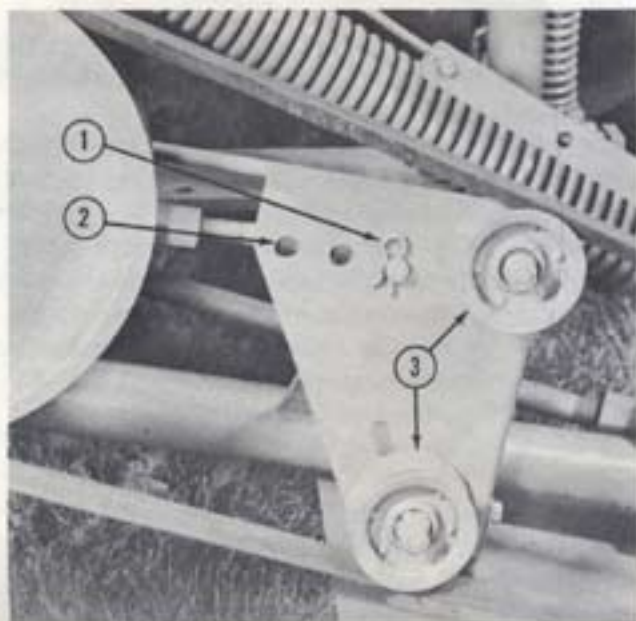

Fig. 34 Belt Idler Pulleys
1. Move both idler pulleys (Fig. 34) so that they do not touch the belt.
three holes are provided (Fig. 34) in order to reduce the distance of thread adjustment necessary. When the proper belt tension is achieved, secure the lock nut tightly up against the turnbuckle and insert the hair pin (No. 1, Fig. 34) in the hook end of the turnbuckle assembly.